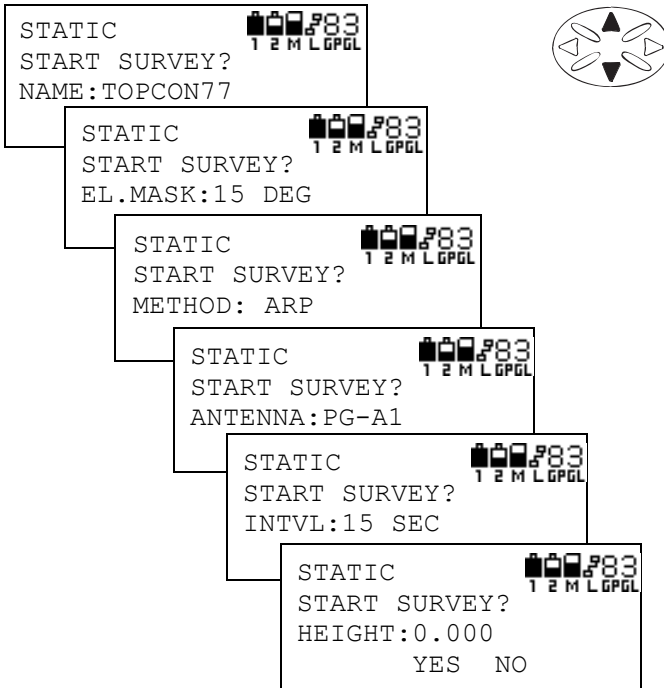

Figure 3-28. Check Parameters
9. To check parameters, use the **up/down cursor** to scroll through the available parameters (Figure 3-28).